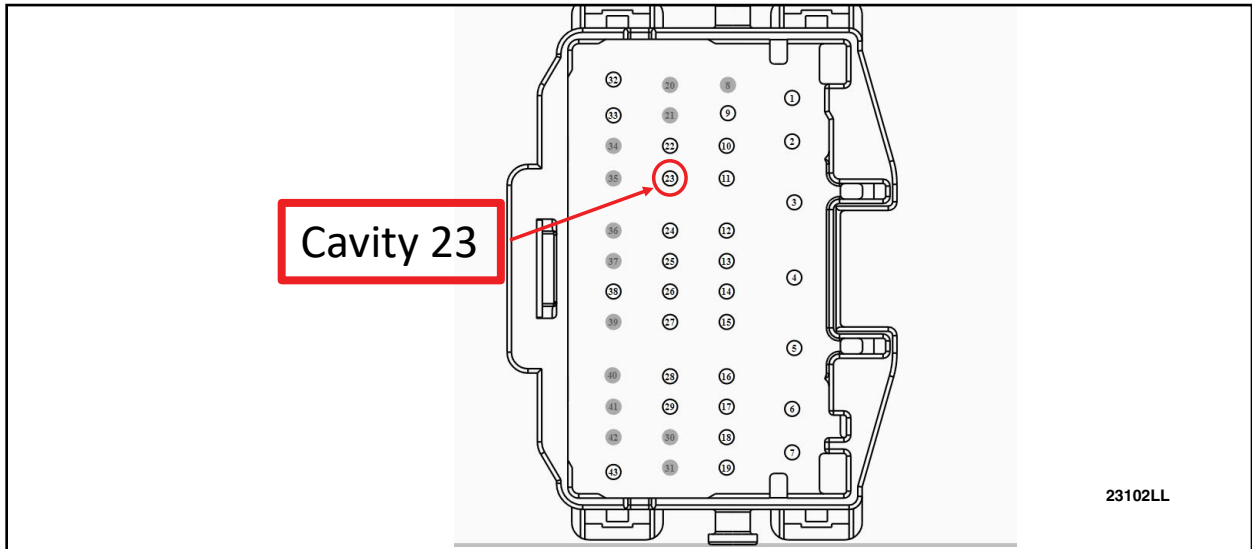

FIGURE 21
25. Insert the terminal into cavity 23. See Figure 21.